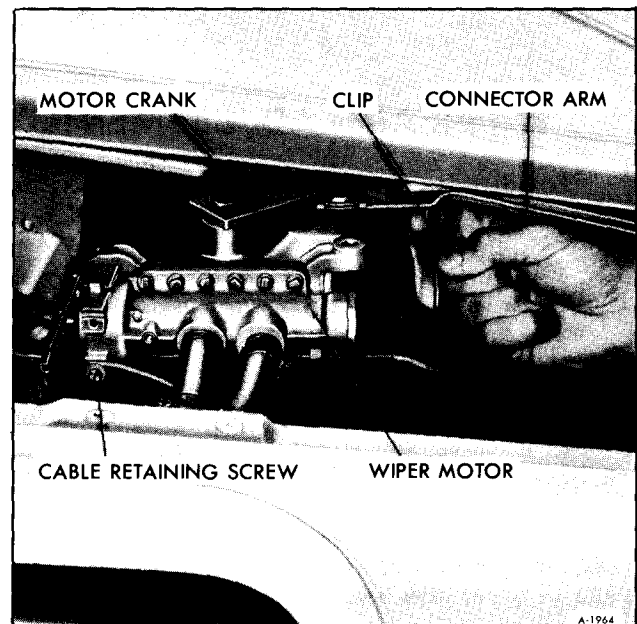

Figure 25—Removing Linkage
2. Remove linkage from wiper motor crank arm by sliding back clip(s) away from motor (figure 25).